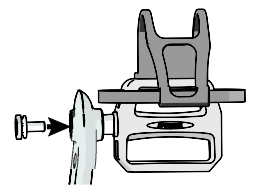

Figure 13
3. Secure the pedal using one bolt ④ (Figure 13) and torque to 33 ft-lb (45 N-m) with the hex key ⑥.